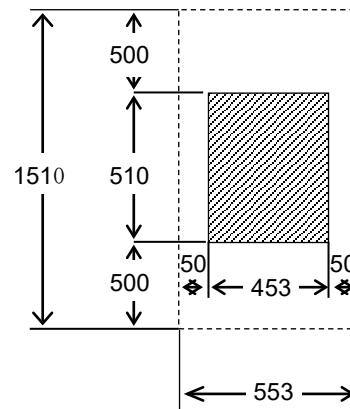

Figure 3-1 Maintenance Space (Unit: mm)
- Leave the spaces as shown in Figure 3-1 to make the following maintenance processes easier.